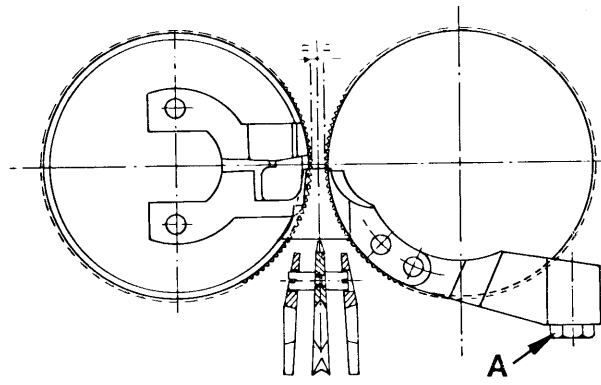

Fig. 23
- Attach the material guide tongue centring it well between the cups and as near as possible to the needle (fig. 23).
- The unroller guide is positioned with its central body resting on a theoretical plane which is equidistant from the feeder cup tangents when these are open to the thickness of the material to be seamed, and kept as close as possible to the material guiding tongue, checking, at the same time, that the two fins, when sufficiently open to allow the passage of any joints, do not touch the feeder cups (fig. 23).